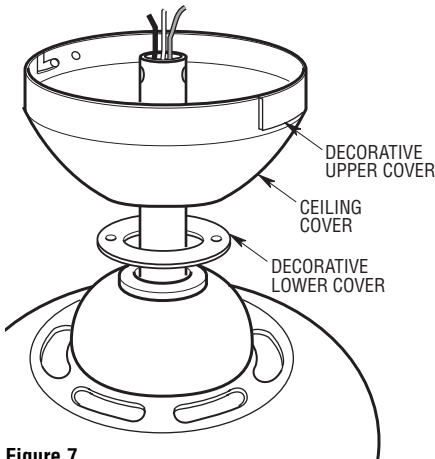

Figure 7
- ☐ 6. Place the decorative lower cover and ceiling cover over the downrod. Be sure both pieces are oriented correctly (Figure 7).